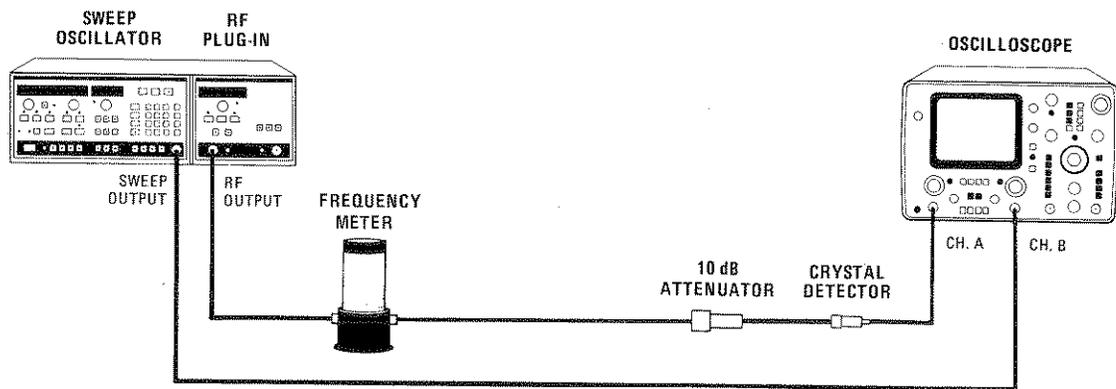

Figure 5-25. Band Overlap Adjustment Test Setup
1. Connect the equipment as shown in Figure 5-25 with the 536A Frequency Meter in the test setup. Allow the equipment to warm up for one hour.